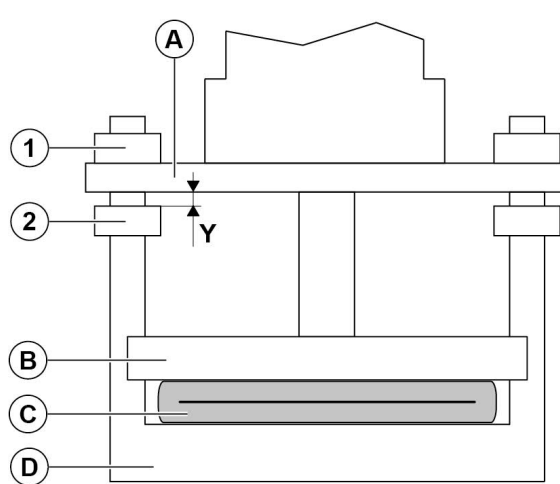

Figure 19.
12. Set the lower nuts (Figure 19, nut 2) Y mm from the attachment plate (see the dimensions Y in Table 2).